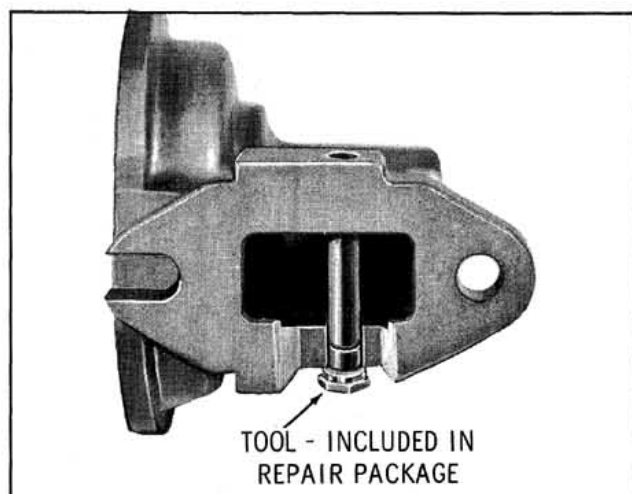

Fig. 3-138 Centering Rocker Arm Pin
6. Install the rocker arm pin through the pump body and the rocker arm, with the chamfered end first. Use the centering tool furnished in the kit to insure the correct positioning of the pin, thus making sure that it is centered in the pump body. (Fig. 3-138)